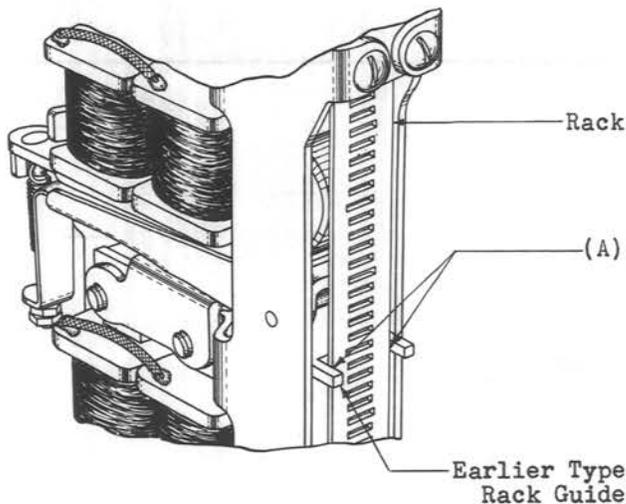

Fig. 5 - Relation of Rack and Earlier Type Rack Guide
2.02 Cutting of Rack - Fig. 5 (A): There shall be no tendency for the rack to cut on the earlier type rack guide. Smooth, bright edges on the rack due to normal wear shall not be considered as an indication of cutting. Gauge by eye.